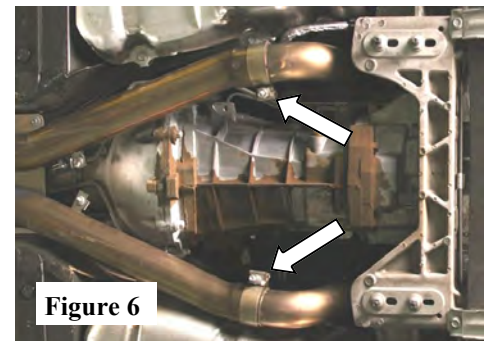

Figure 6
4. Place a clamp over each expanded end of the X-pipe Assembly. Starting with the R/H Over-Axle Pipe, route pipe over axle on right-side and insert end into inlet of the right-side of the X-Pipe. Repeat step for the L/H Over Axle Pipe. (See Fig. 6) DO NOT TIGHTEN HARDWARE.